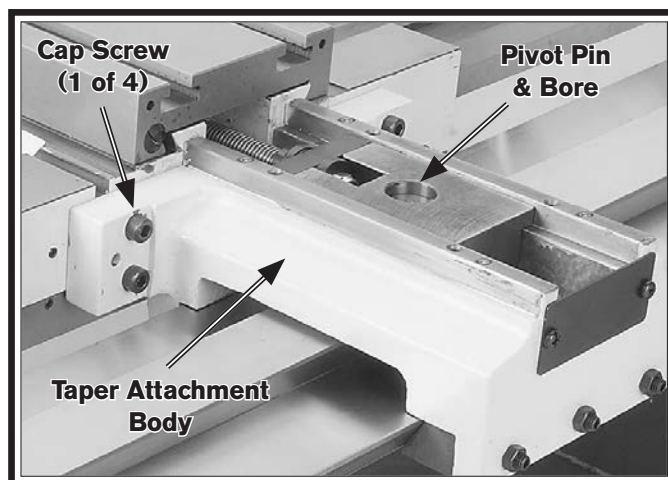

Figure 13. Taper attachment body installed.
- 16.** With the help of another person, raise the taper attachment body underneath the slide block so the pivot pin slides into the pivot bore (see **Figure 13**), then secure the assembly to the saddle with the four M8-1.25 x 45 cap screws.